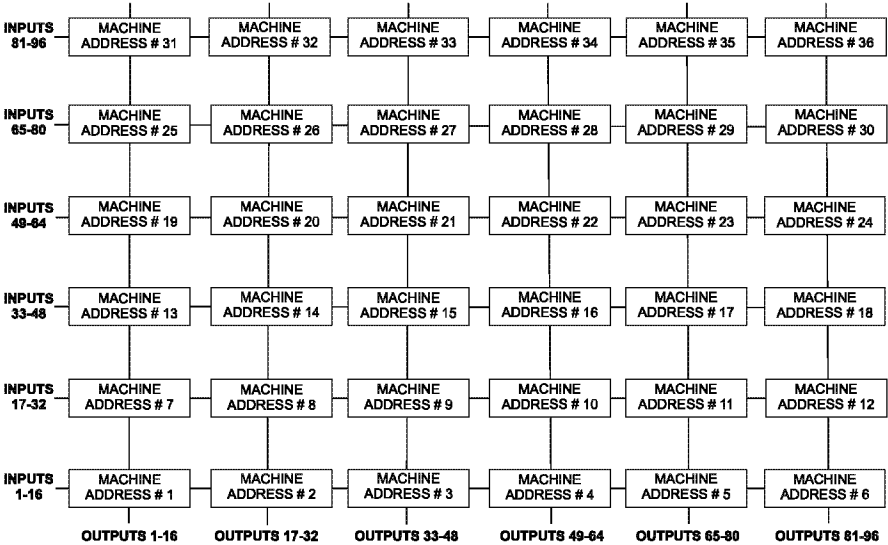
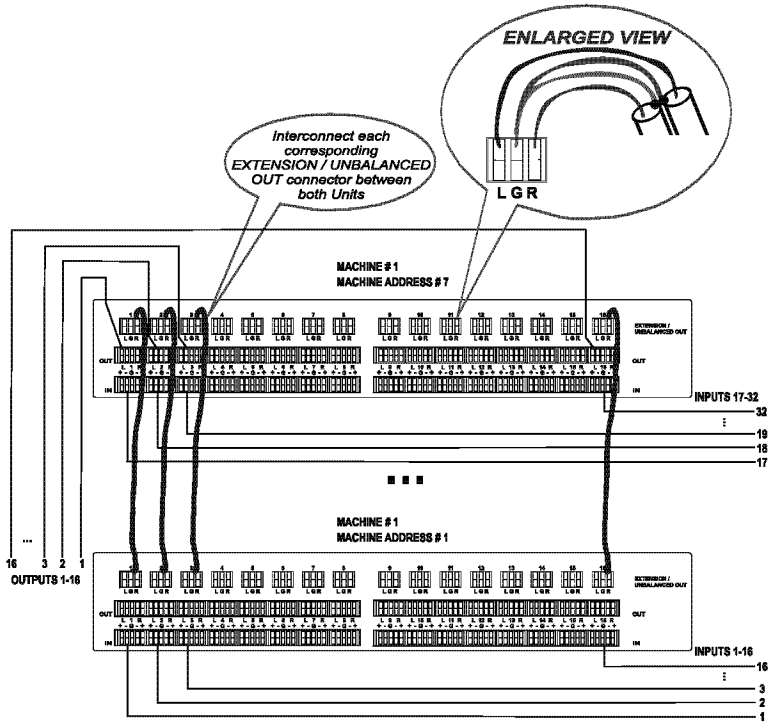
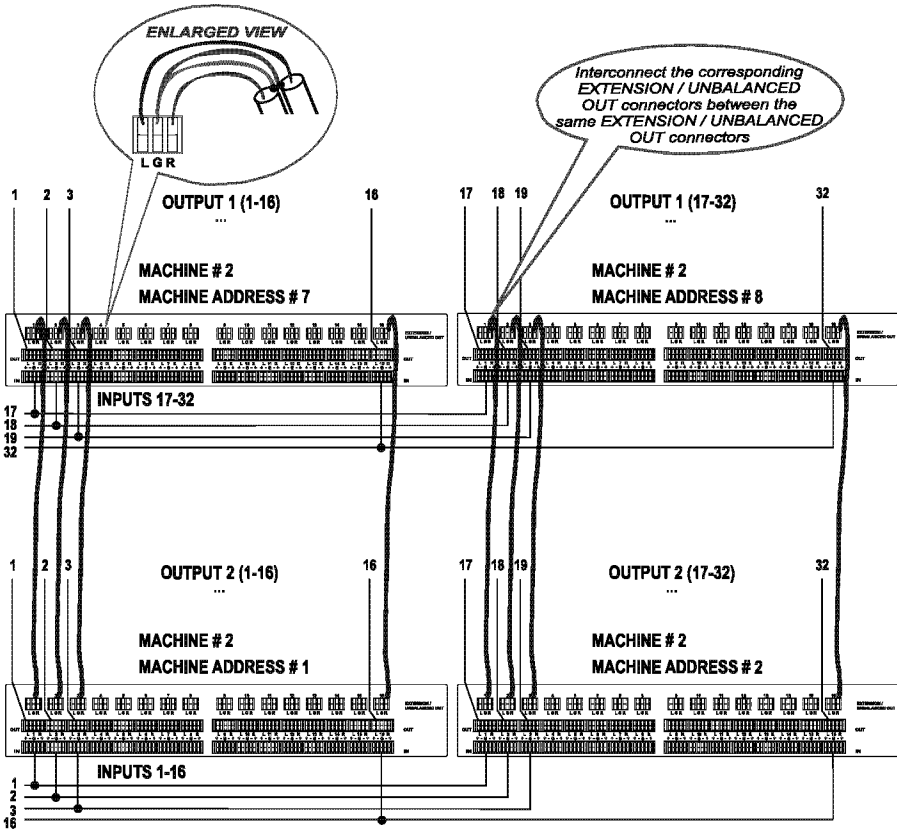

Figure 6: MACHINE ADDRESS # Designation
Figure 8: Connecting the 32x16 Switcher
Figure 9: Connecting the 32x32 Switcher
You can expand the number of inputs and outputs using several VS-1616A units¹. Set the MACHINE ADDRESS # (see section 6.5.2) on each VS-1616A unit to define which inputs and outputs are configured to that particular unit when expanding, as the chart in Figure 6 illustrates.
For example, to connect a 48x64 switcher (48 inputs and 64 outputs), you would configure using MACHINE ADDRESS # 1, 2, 3, 4; 7, 8, 9, 10; 13, 14, 15 and 16. You can only choose a rectangular² configuration from the chart in Figure 6.
As can be seen in Figure 6, a 32x16 switcher consists of 2 **VS-1616A** units (MACHINE ADDRESS # 1 and MACHINE ADDRESS # 7). To assemble, as Figure 8 illustrates:
2. Set the MACHINE ADDRESS # on one **VS-1616A** unit to 1 and on the other **VS-1616A** unit to 7 (refer to Figure 6).
¹ For a single group, this is usually set to # 1, as in the example in Figure 8
1 To the audio acceptors (not shown in Figure 8)
As can be seen in Figure 6, a 32x32 switcher consists of 4 **VS-1616A** units (MACHINE ADDRESS # 1, MACHINE ADDRESS # 2, MACHINE ADDRESS # 7 and MACHINE ADDRESS # 8). To assemble, as Figure 9 illustrates:
2. Set the MACHINE ADDRESS # to 1, 2, 7 and 8 on each of the 4 units, respectively (refer to Figure 6).
¹ Set to # 1 in most cases. In the example in Figure 9, the MACHINE # is set to # 2
² To the audio acceptors (not shown in Figure 9)
The MACHINE ADDRESS # is determined via the MACHINE ADDRESS Menu command, as section 8.3 describes. The MACHINE ADDRESS # defines which inputs and outputs are configured to that particular unit when expanding, as the chart in Figure 6 illustrates.